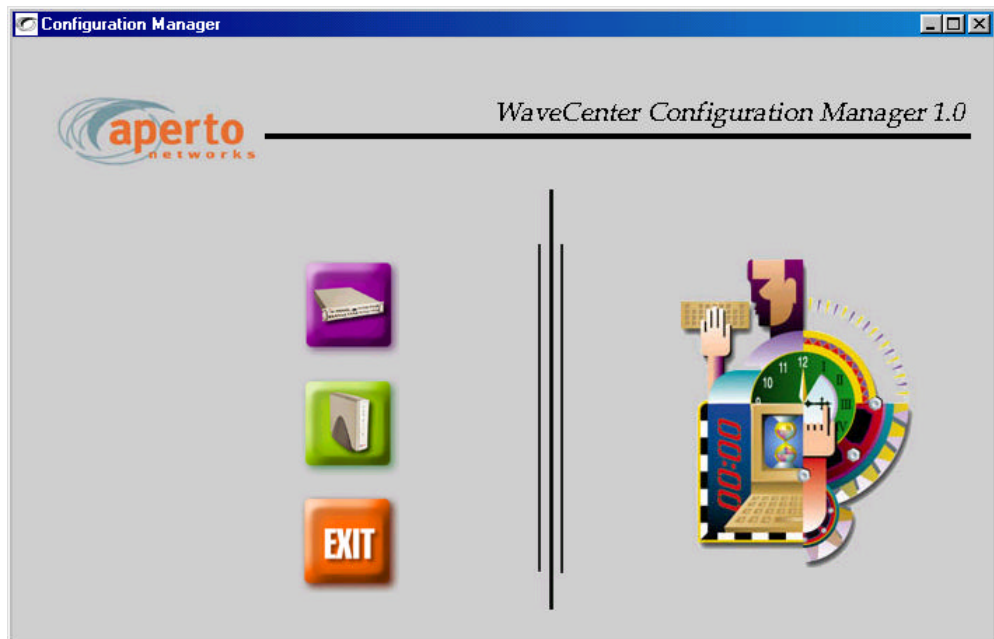
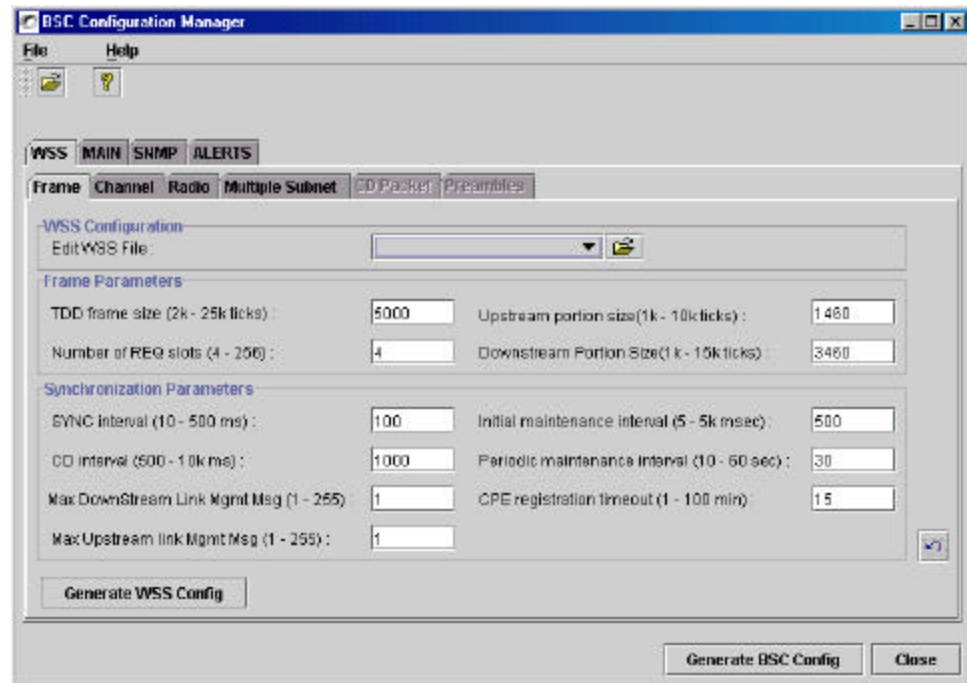

Figure6-1 WaveCenter Configuration Manager Home Screen
Figure 6-3 Base Station Opening Menu (WSS — Frame)
The WaveCenter Configuration Manager consists of separate Base Station Unit and subscriber (CPE) branches, accessed by clicking the BSC and SU (CPE) icons shown in *Figure6-1*. To configure a Base Station Unit, click on the BSC icon. To configure subscriber equipment, click on the subscriber Indoor Unit (CPE) icon.
1. Launch the WaveCenter Configuration Manager by clicking on the desktop icon. The program's home screen will be displayed, as shown in *Figure6-1*.
To configure a Base Station Unit, including the wireless radio interfaces (WSSs, or wireless subsystems), click on the BSU icon on the WaveCenter Configuration Manager home screen (*Figure 6-1*). The BSU Configuration Manager will open in a new window, as shown in *Figure 6-3*.
There are four first-level menu tabs for BSU configuration, as shown by the upper row of tabs in *Figure6-3*:
Click on the **WSS** tab in the upper row. As the second row of tabs in *Figure6-3* shows, there are six menus for configuring a WSS:
1. Start with the **WSS — Frame** menu (*Figure6-3*). If desired, use the **Edit WSS File** field to load an existing WSS configuration as a template.